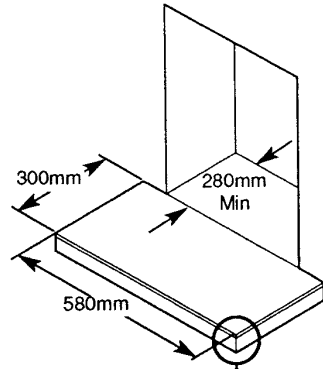

Fig. 6
1. The fire is intended to be hearth mounted only. The hearth must be of a non-combustible material at least 13mm (1/2 in) thick and measuring at least 300mm (11 3/16 in) deep by 580mm (22 27/32 in) wide. It must be fitted central to the fireplace opening. The top surface of the hearth should be a minimum of 50mm (2 in) above floor level (Fig. 6).